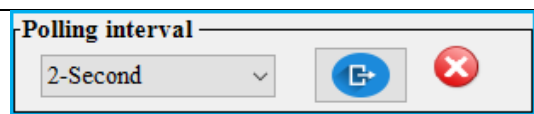

Figure 45
- To set polling interval user first has to select one polling interval and then click on  button. If it saved correctly then  right check will be appear next to submit button as shown in Figure 45. In case of error,  wrong check will appear.